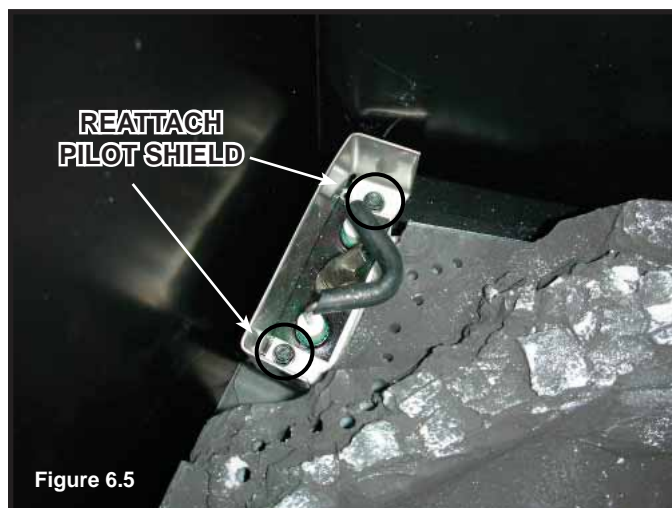

Figure 6.5
20. Before reinstalling the burner, ensure that the shutter setting is fully open. Reattach pilot to pilot shield to burner (see Figure 6.5). Retighten the screw.